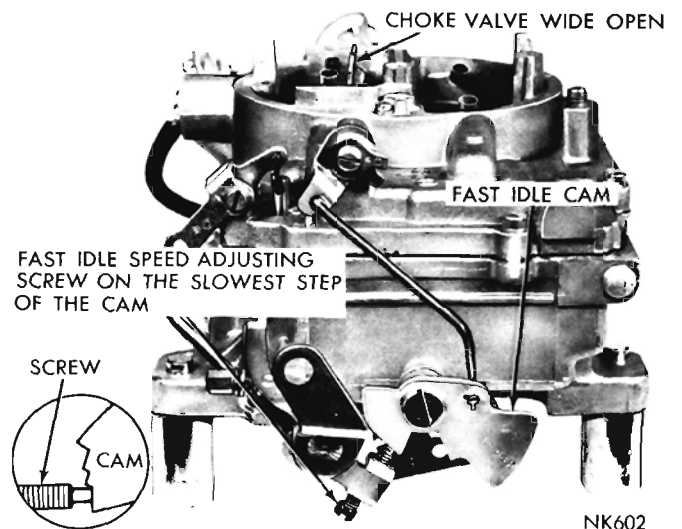

Fig. 21—Fast Idle Speed Adjustment (on the vehicle)
(1) With the engine running and the transmission in the neutral position, open the throttle slightly.
(2) Close the choke valve about 20 degrees, then allow the throttle to close. Return the choke valve to the wide open position.
(3) The fast idle speed adjusting screw should be contacting the slowest speed step on the fast idle cam, as shown in (Fig. 21).
(4) With the engine warmed-up to the normal operating temperature, turn the fast idle speed adjusting screw **in** or **out** to secure 700 r.p.m. **Reposition the cam and throttle after every fast idle speed screw adjustment to apply normal throttle closing torque.**